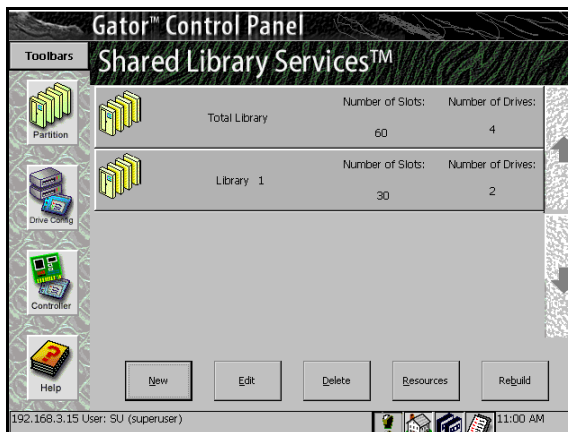

Figure 4-2 Shared Library Services screen.
3. The Shared Library Services screen displays a button for the entire library and a button for each configured partition (Figure 4-2).